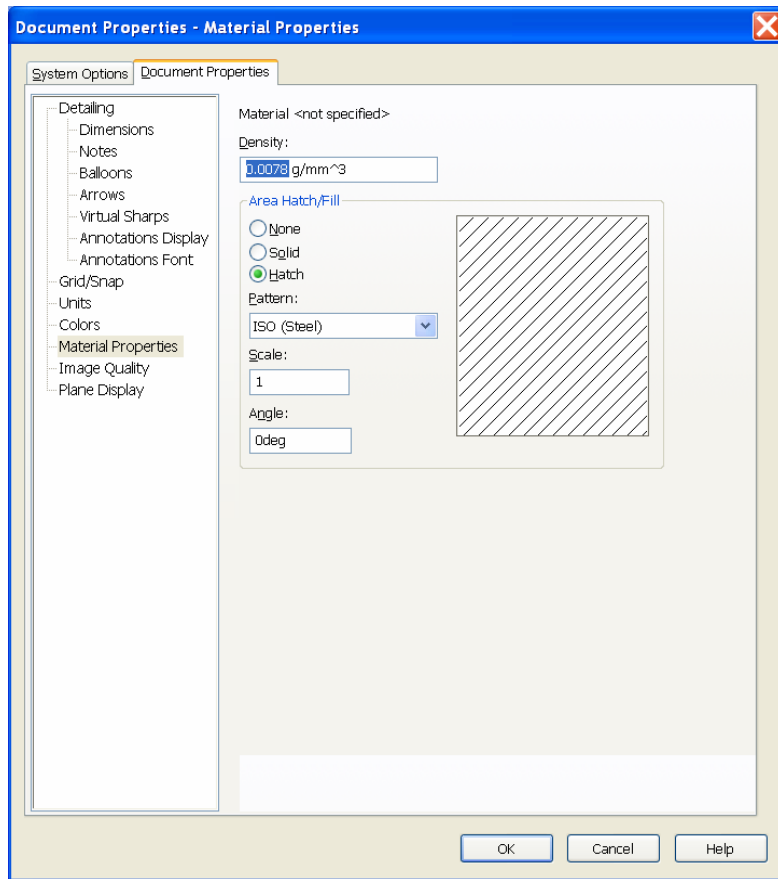

Figure 4 Material properties
- 9) Click **Material Properties** in the properties tree box. Change the density to **0.0078 g/mm³** as shown in Figure 4.